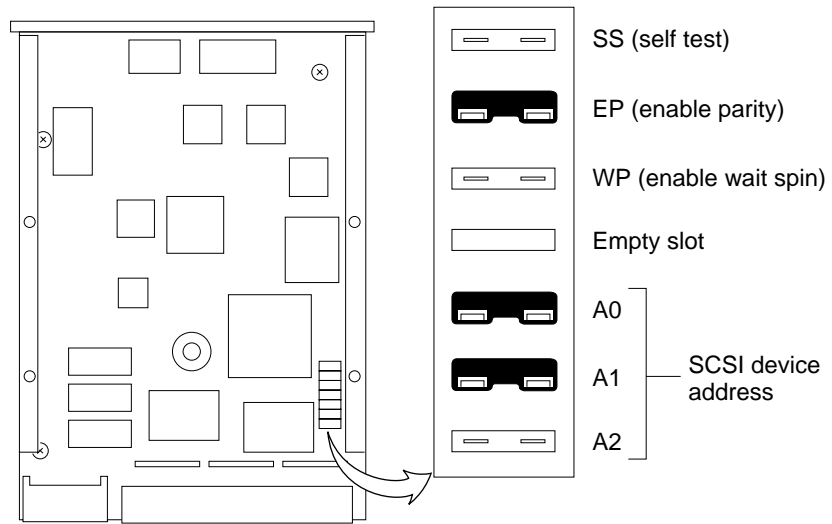
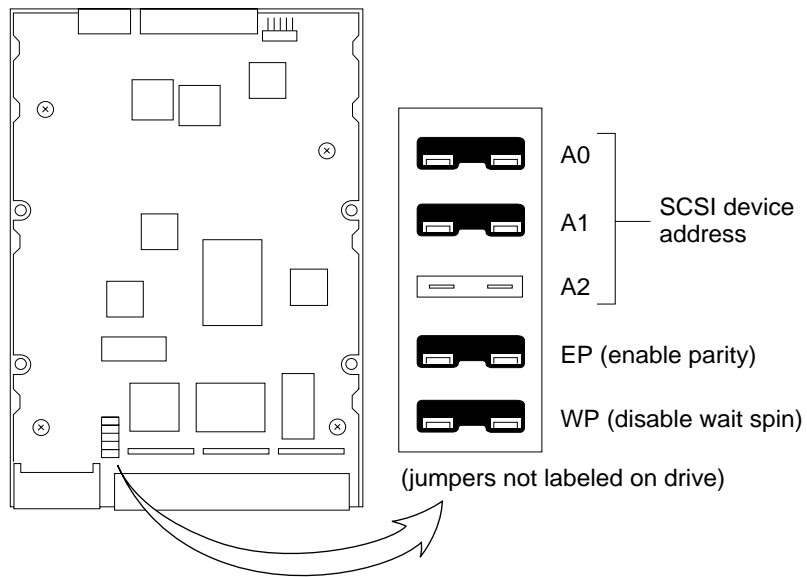

Figure 4-10 Hard Disk Drive with 6 Jumpers—Jumper Setting for Drive 1
Figure 4-11 Hard Disk Drive with 5 Jumpers—Jumper Setting for Drive 1
Note – The markings for the jumpers on the drive shown in Figures 4-10 and 4-12 are etched or labeled onto the drive's controller board. The jumpers on the drive shown in Figures 4-11 and 4-13 are not marked on the drive's controller board.
3. Inspect the jumper settings. Compare them to the settings shown in Figure 4-10 or 4-12.
4. Inspect the jumper settings. Compare them to the settings shown in Figure 4-11 or 4-13.